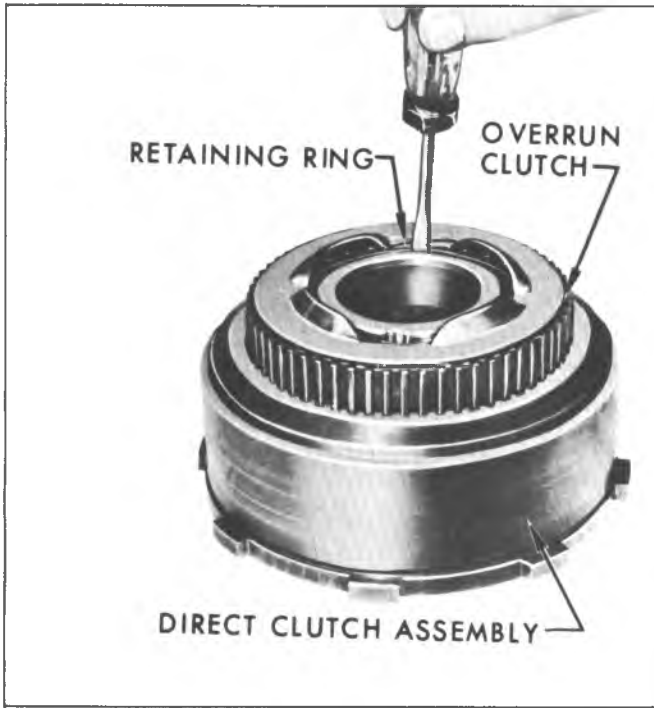

Fig. 67M--Removing Overrun Clutch Retaining Ring and Retainer
1. Remove intermediate overrun clutch drum front retaining ring and retainer (fig. 67M).
2. Remove intermediate clutch overrun outer race (fig. 67M).
10. Install intermediate overrun clutch retainer and retainer ring as shown on Figure 67M.